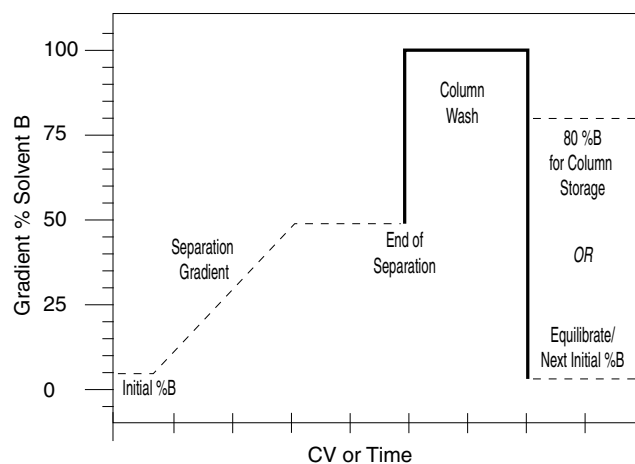

Figure 1: Post Run Column Flushing
With proper care, RediSep Rf C18 columns may be used thirty times or more. Reversed phase methods should be written so that at the end of the separation, the column is washed with 2–4CV of a high percentage (100%) of the organic (B) solvent. After 2–4CV of wash, the percent organic can be returned to the starting condition for 2–3CV to anticipate the next run column equilibration conditions (see Figure 1). Alternatively, the percent organic can be changed to 80% in anticipation of column storage.